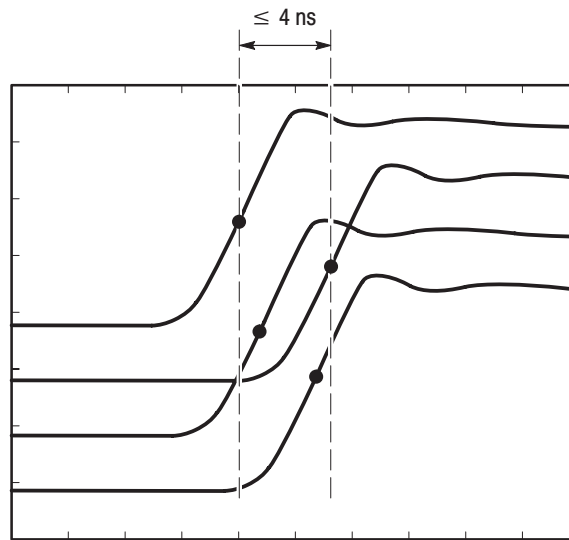

Figure F-20: Skew Between Modules
- c. Check that the skew (time variance) between the rising edges of the waveforms displayed on the oscilloscope is within 4 ns (see Figure F-20).